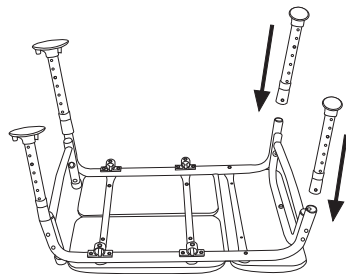

Figure 2
4. Attach leg with the smaller suction cups by pressing the push pin on the attached portion of the leg while sliding the unattached leg portion over top. **(Figure 2)**.